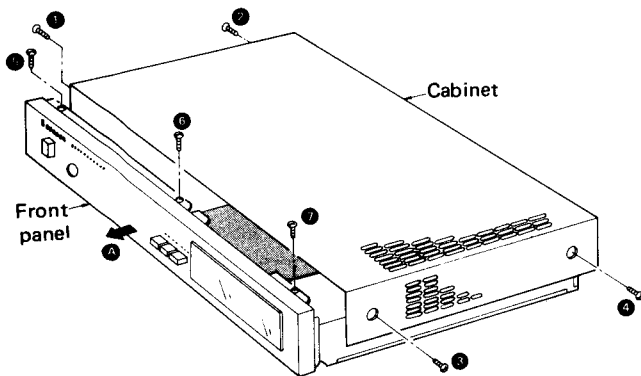
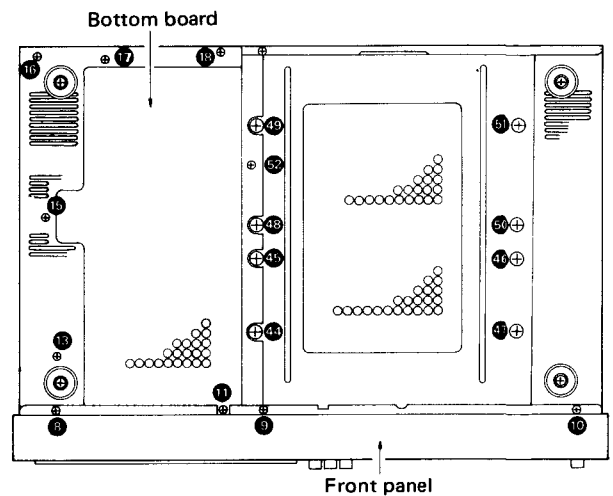

Fig. 8
Fig. 9
1. Remove the 4 setscrews (1 ~ 4) in Fig. 8) of the cabinet.
2. Remove the 6 setscrews (5 ~ 10) in Fig. 8 and Fig. 9) of the front panel.
3. Move the front panel in the direction of the arrow A in Fig. 8.
2. Remove the 6 setscrews (11, 13 and 15 ~ 18) in Fig. 9) of the bottom board.
3. Remove the 4 setscrews (44 ~ 47 or 48 ~ 51 in Fig. 9) of the power transformer and cut of the 3 lead clampers.
4. Remove the 1 setscrew (52 in Fig. 9) of the temperature detector printed circuit board bracket.
5. Remove the 1 setscrew (15 in Fig. 9) of the Heat-sink bracket.